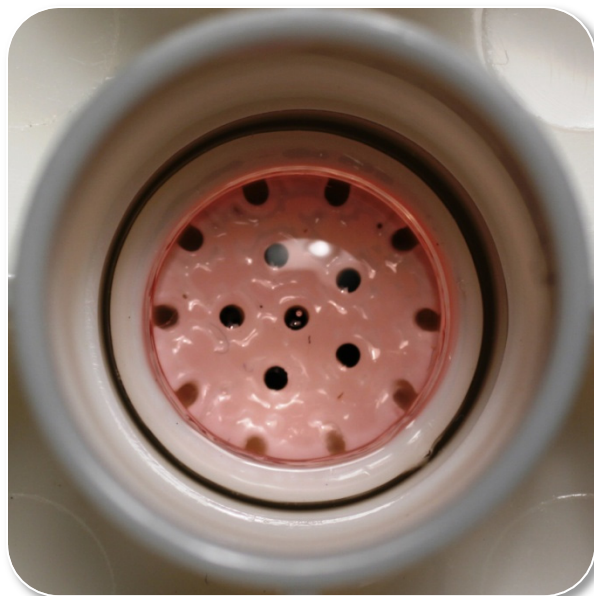

Figure 4. Suspension volume within the HT Cell Seeder™.
4. The recommended suspension volume when using an HT Cell Seeder™ for an individual well is 175 μ L. This volume is large enough to allow uniform distribution of the media-cell suspension within the well when dispensing with a 1000 μ L micropipette (Fig. 4). Also, this volume is small enough to prevent the media-cell suspension from spilling out of the HT Cell Seeder™ when handling the baseplate.